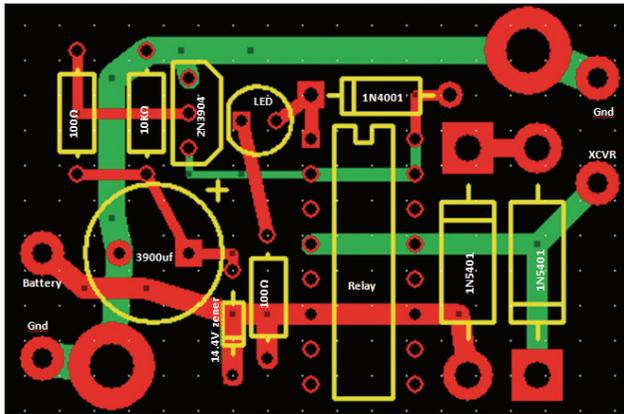

Figure 2 — Voltage reducer PC board layout. The LED/D3 anode (long lead) is closest to the 2U3904.
The circuit layout and construction technique are not critical. While I could have easily built the circuit on perforated circuit board, I anticipated that I would need more than just a single unit, so I decided to lay out a printed circuit (PC) board. Figure 2 shows the component locator for my layout. Contact me for PC board availability. I even have a few full PC board assemblies, or I can provide the ExpressPCB layout if you wish to make your own board.